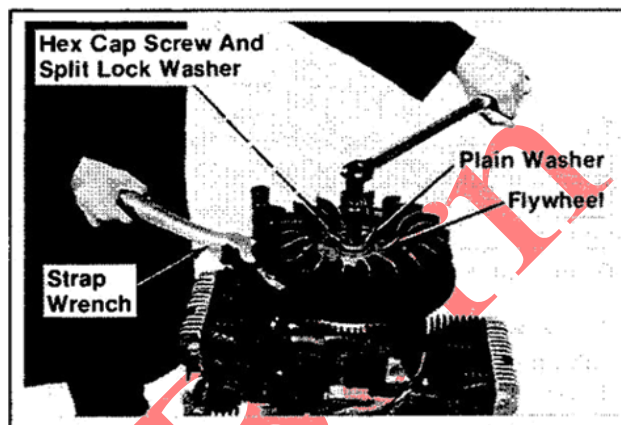

Figure 9-21. Loosening Flywheel Fastener.
2. Hold the flywheel with the strap wrench (Tool No. NU-10357) and loosen the hex cap screw. Refer to Figure 9-21.